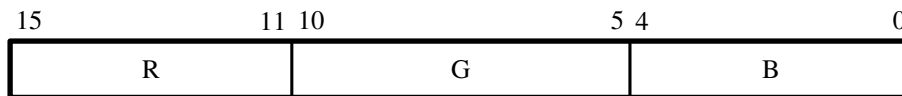

Figure 9. 16-bit RGB Color Space.
- 16-bit RGB — This format uses 5 bits for red, and 6 bits for green and 5 bits for blue as shown in Figure 9. This mode is defined as 16 bits per color and one color plane.